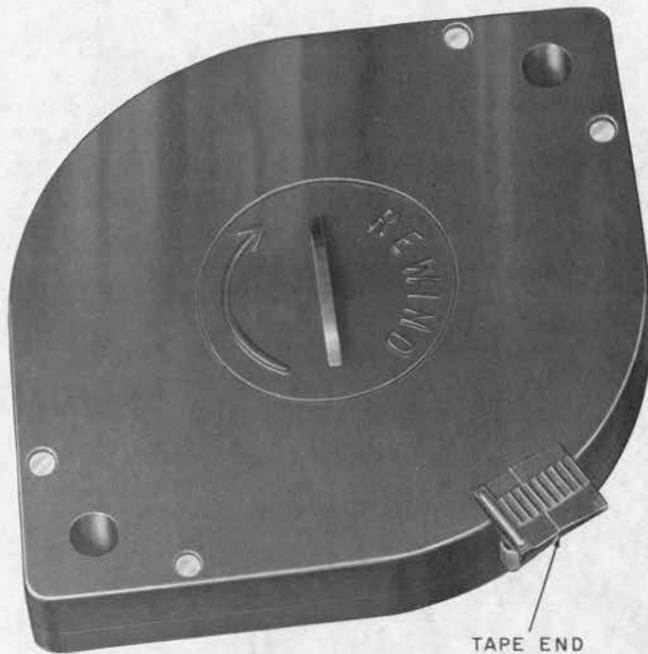
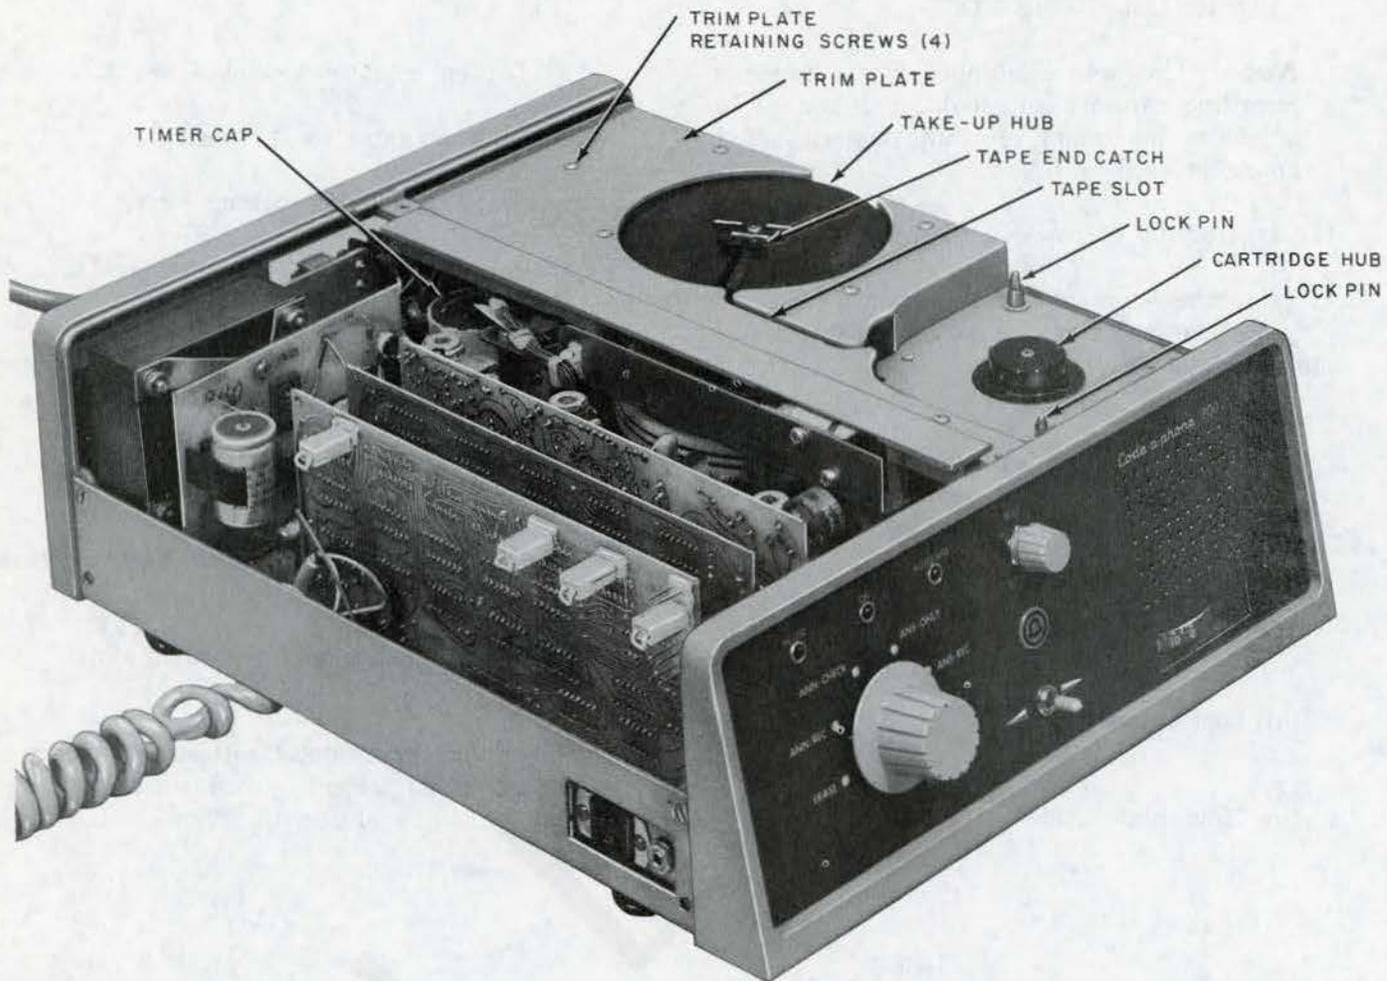
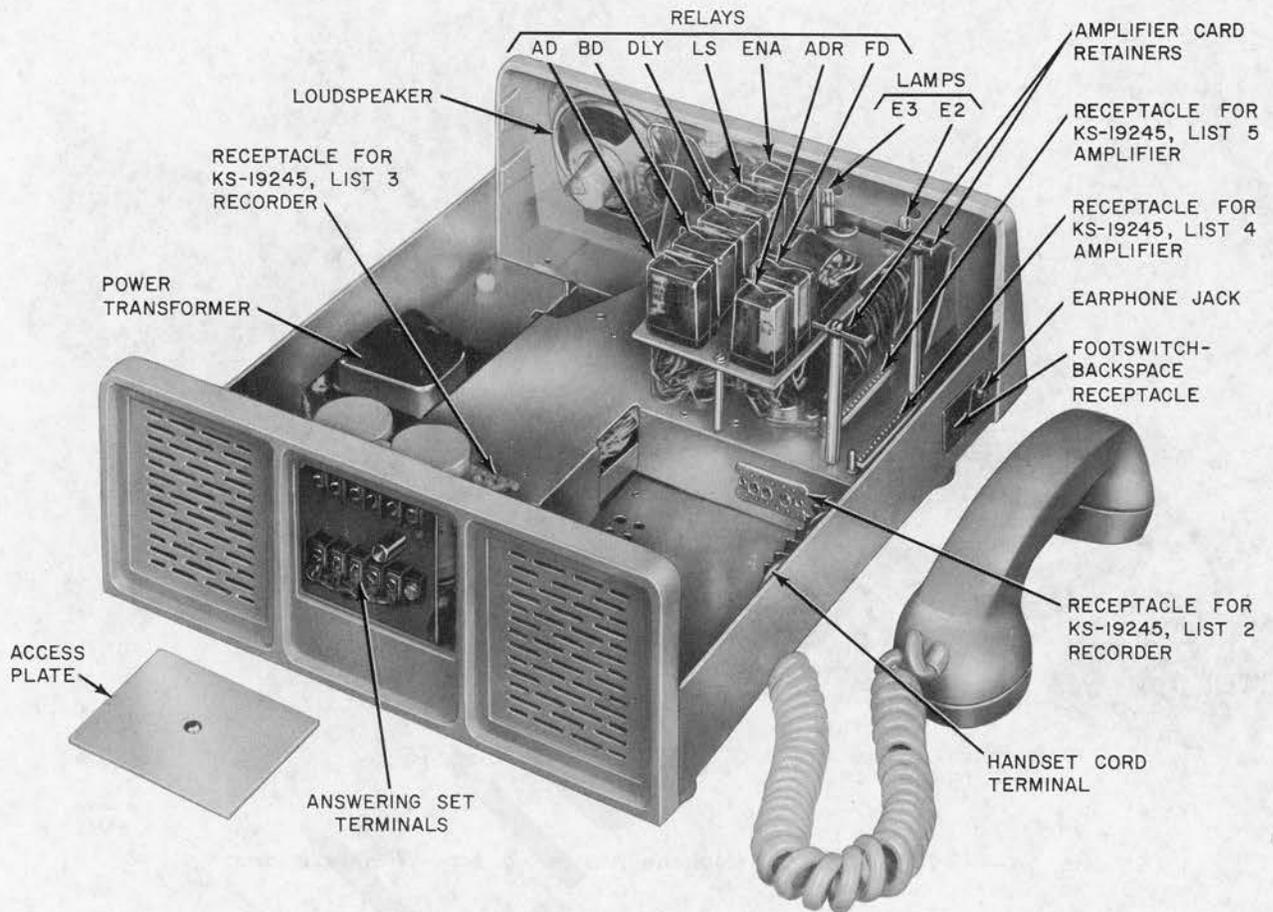

Fig. 9—KS-19245, List 6 Cartridge
Fig. 22—KS-19245, List 13 Telephone Answering Set—Cover Removed
Fig. 23—KS-19245, List 1 Telephone Answering Set—Cover and Components Removed
(e) KS-19245, List 6 Cartridge (Fig. 9) provides a 1/4-inch wide plastic base magnetic recording tape with a capacity for 2 hours of incoming message recording time.
- (1) Set function selector to OFF.
- (2) Place cartridge (Fig. 9) over cartridge lock pins and hub (Fig. 22) and press down into place.
- (3) Slide tape end (Fig. 9) through tape slot (Fig. 22) and into slot of take-up reel and lock into place.
4.14 Cartridge Removal (Fig. 22):
(2) List 1 set only:
- (a) Loosen amplifier board retainers (2) (Fig. 23).
(3) List 13 set only:
- (a) Remove the four trimplate retaining screws (Fig. 22).